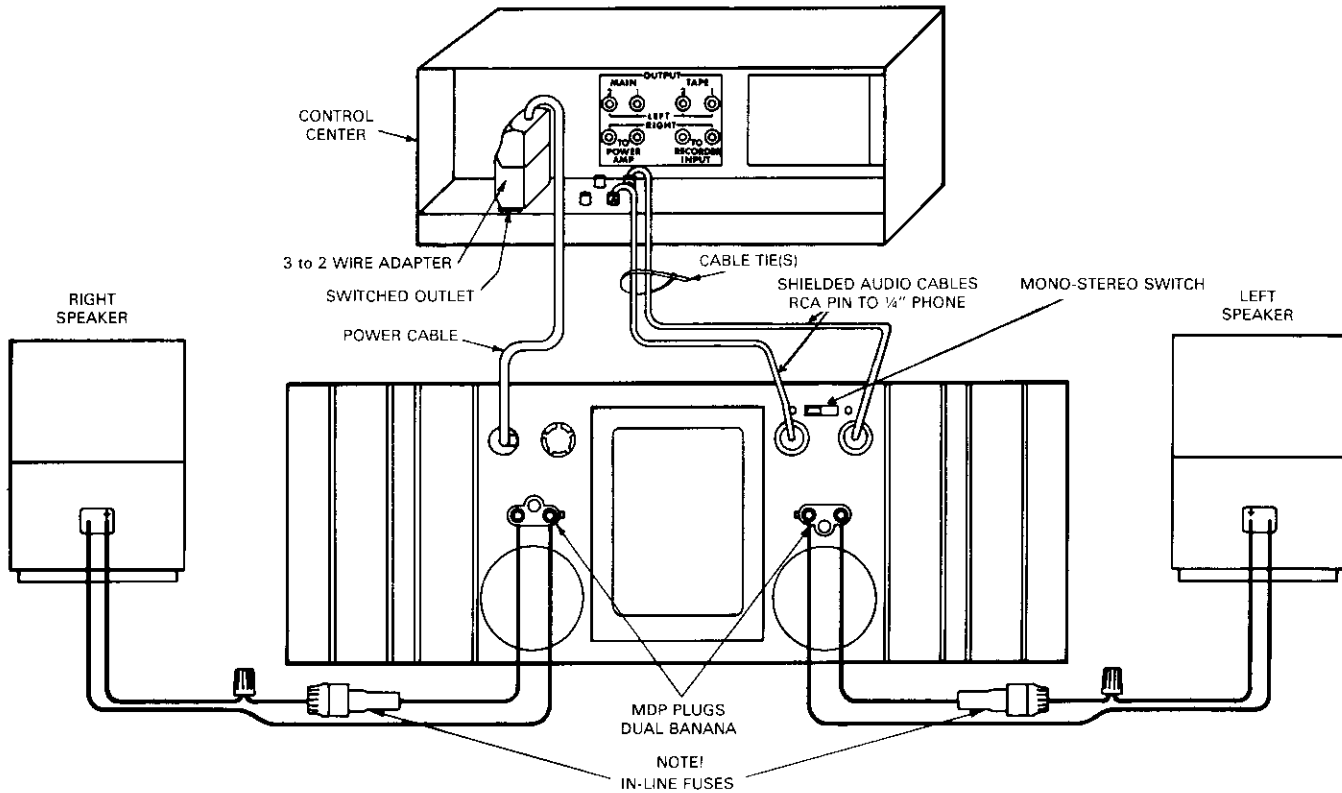

FIG. 2-2
1. Remove output covers, exposing dual binding-posts. Two-conductor speaker cables must connect to the OUTPUTS using terminal lugs, tinned ends, or the special "banana" plugs supplied with the DC-300A. Connect the in-line fuses as recommended in the Accessory Bag and Fig. 2-2. (Not needed with CROWN speakers.)
A mono-stereo switch on the rear panel adjacent to the input jacks, allows the DC-300A to be operated normally (stereo) or in mono, with no internal modification. (See figure 2-2.) When in the mono position, the input circuitry of the DC-300A is changed so that the two amplifiers are "added" for mono output. (See mono specifications, page 3).